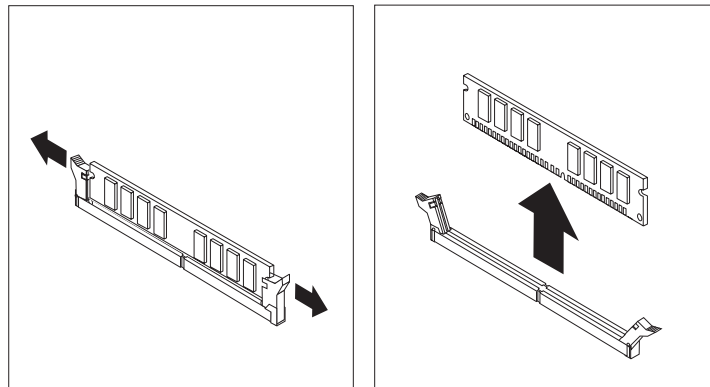

Figure 29. Removing the memory module
4. Remove the memory module being replaced by opening the retaining clips as shown. See Figure 29.